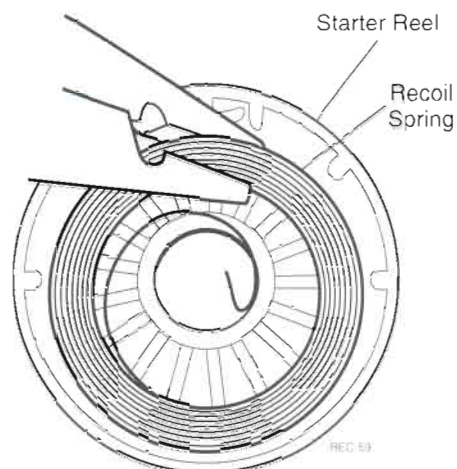

Figure 4.3 Removing the Recoil Spring (300-377)
- **Models 300, 300S, 360 and 377** Use a needle-nose pliers to remove the recoil spring from the starter reel. (Figure 4.3)